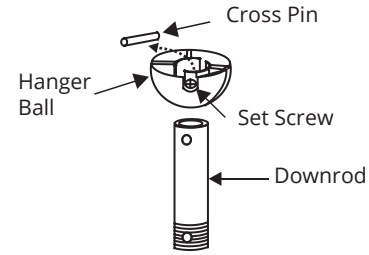

FIGURE 8
3. Take out the set screw located in the hanger ball, lower the hanger ball and remove the cross pin. Remove the hanger ball from the hanger ball/downrod assembly (Fig. 8).